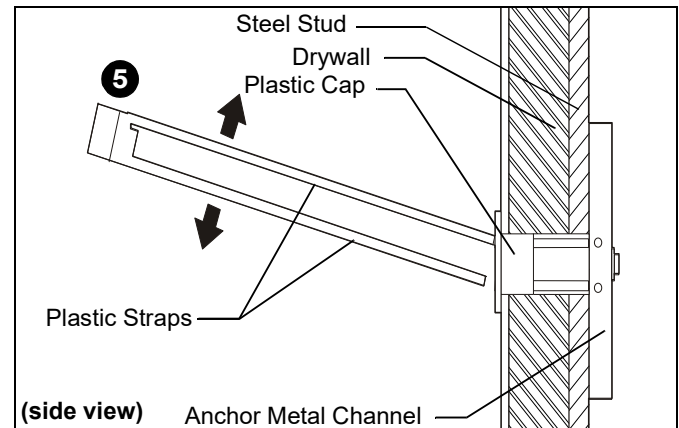

Figure 14
5. Snap off plastic straps on anchor at wall by pushing side to side, snapping off straps level with flange of plastic cap. (See Figure 14)